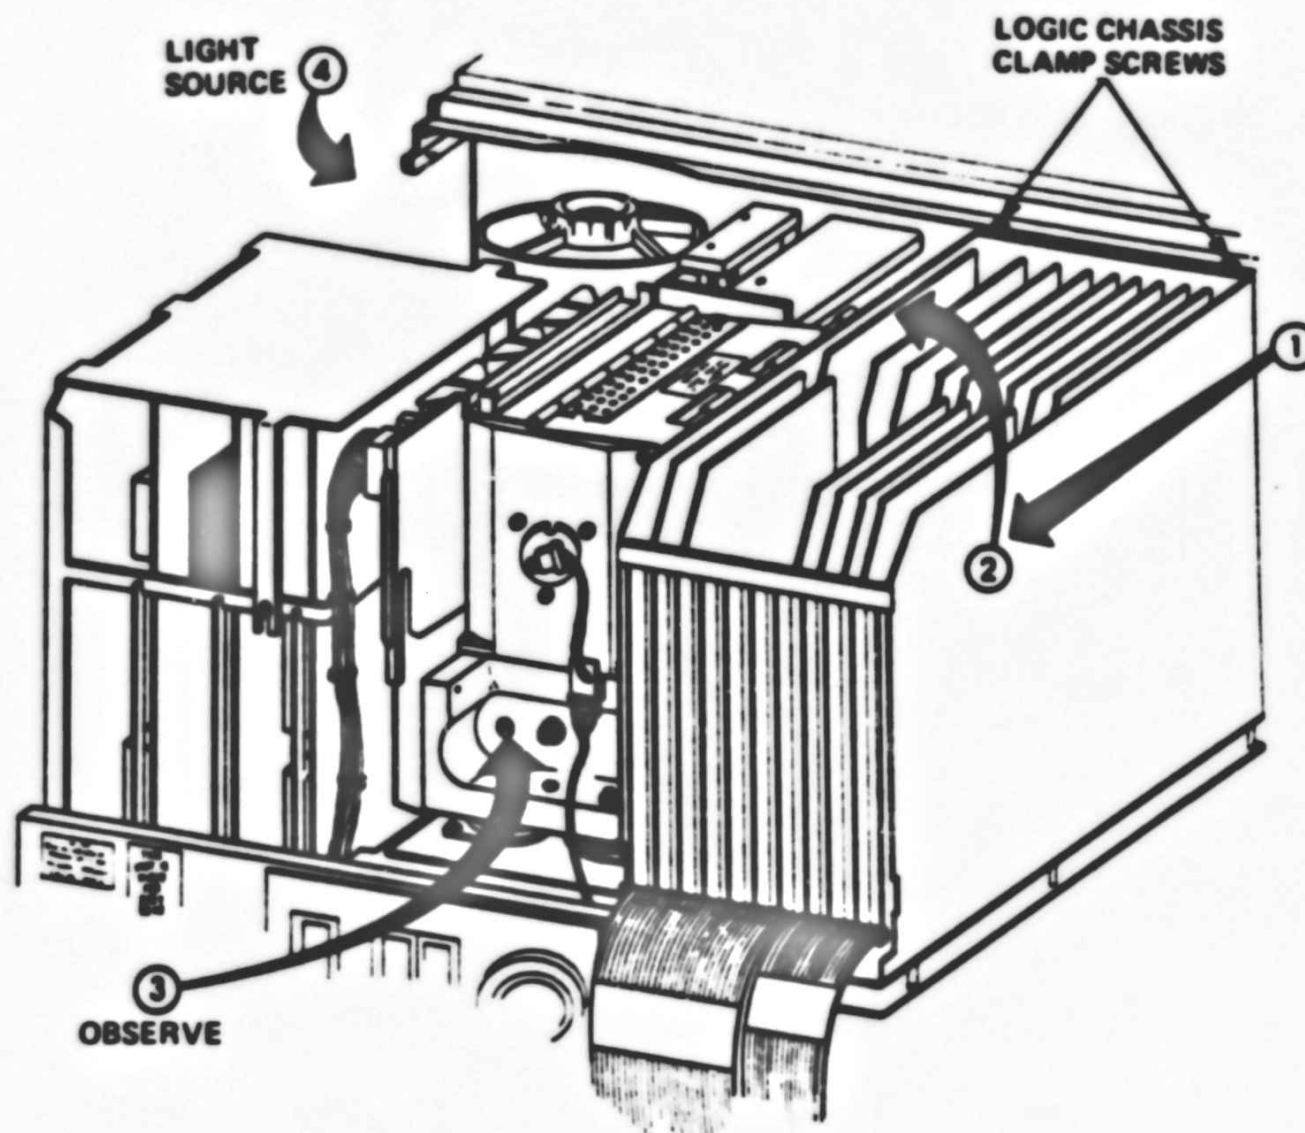

Fig. 1
- 3) From the rear of the drive, loosen the logic chassis clamp screws (see figure 1).
- 4) CAREFULLY slide the logic chassis (on its hinges) towards the rear of the drive and then up and to the left (counterclockwise) into the maintenance position (arrows 1 & 2, figure 1).
- 11) With the upper deck in its LOWERED POSITION, check for adequate clearance on the "other" side of the transformer. This will be the side of the transformer closest to the power supply. This area may be observed by looking through the hole in the rear of the positioner (arrow 3, figure 1) and applying sufficient light (with a flashlight) as shown by arrow 4 in figure 1. Assure there are no pinched wire harnesses and no chance of damage due to contact between the transformer or transformer winding assembly and other surrounding components or chassis.
- 13) Carefully return the logic chassis to its operating position and retighten the clamp screws (figure 1).